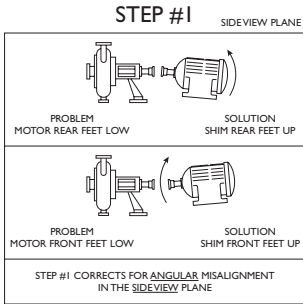

Fig. 30-5
1. Correct for angular misalignment in the side view plane (Fig. 30-5).